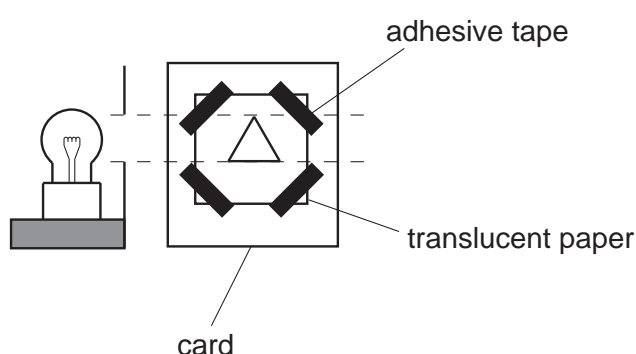

Fig. 4.1
- (iv) Illuminated object with a small triangular hole (see Fig. 4.1). The hole is to be covered with thin translucent paper (e.g. tracing paper)